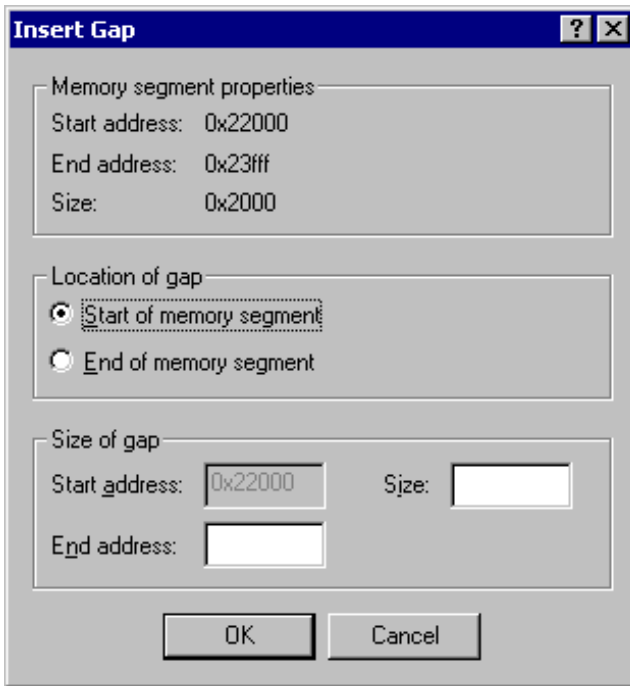

Figure 4-25. Insert Gap Dialog Box
2. Choose **Insert gap**. The **Insert Gap** dialog box appears, as shown in Figure 4-25.